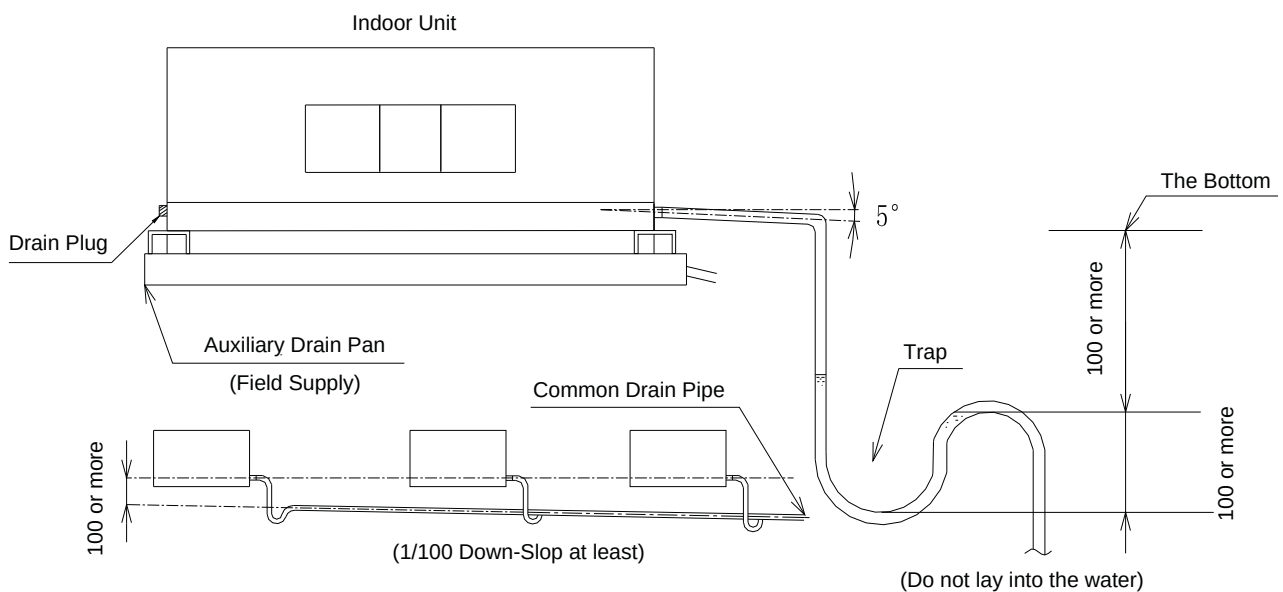

Fig. 6.1 Drain Piping
- The positon of the drain piping connection is shown in Fig 6.1.